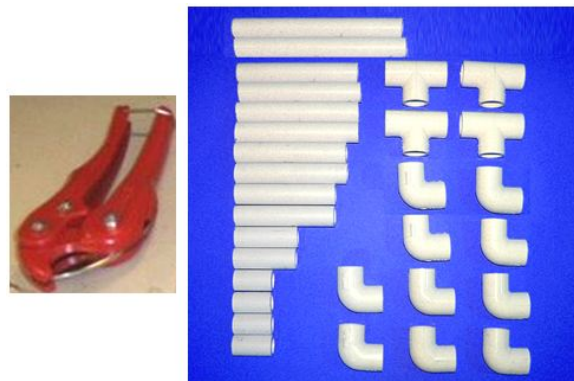
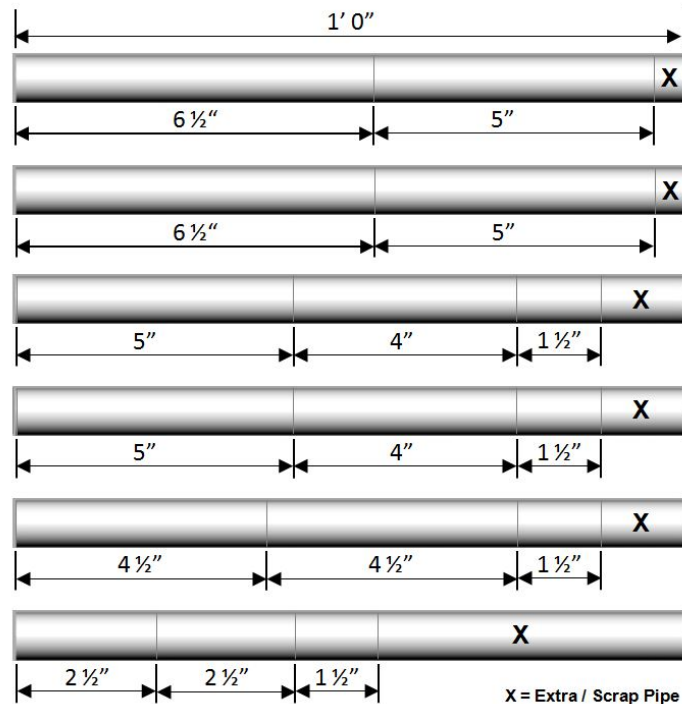

Figure 1.1-1: PVC Pipe Cutter and Cut PVC Pipe Sections, Elbows, and Tees
Figure 1.1-2: Cutting Guide to Efficiently Mark and Cut the 16 Required Pipe Sections from the Six One-Foot Pipe Pieces Provided in SeaPerch ROV Kits
1. Measure and mark the pieces listed below from lengths of ½" PVC pipe. Use a marker to write the length on the middle of each piece to keep track of cuts and to easily identify them later. Figure 1.1-1 shows the pieces needed to assemble the ROV frame. Figure 1.1-2 (on the next page) shows one way to cut the pipe pieces from six, one-foot pipes.